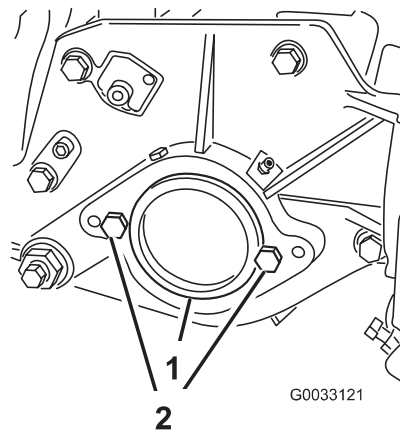

Figure 6
2. On right end of cutting unit, remove plastic plug from bearing housing (Fig. 6).
3. Remove the 2 capscrews from right side plate.(Fig. 6).
2. Capscrew (2)
5. Loosely install the 2 reel motor mounting capscrews to the left side plate of the cutting unit (Fig. 6).